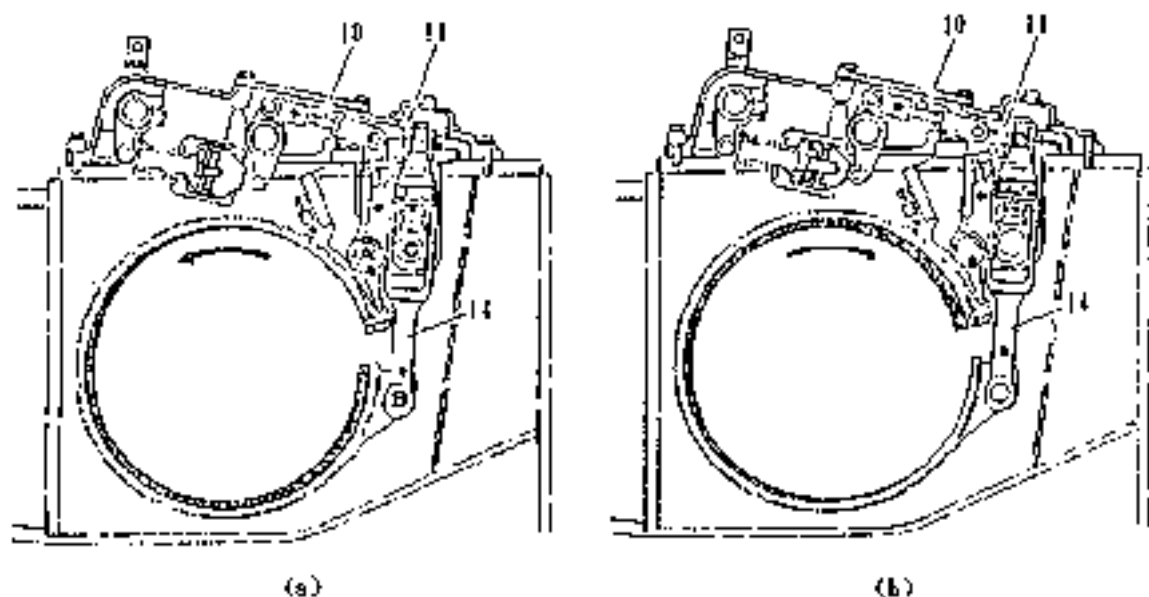

Fig. 2-30
As the outer drum of clutch is rotating in the reverse direction (See Fig. 2-30(b)), the rod (17), pin B and lever (15) move in the direction as shown in the figure 3 and the brake band clamps the outer drum, but the supporting point is shifted to the point C. The both brake effects are similar.